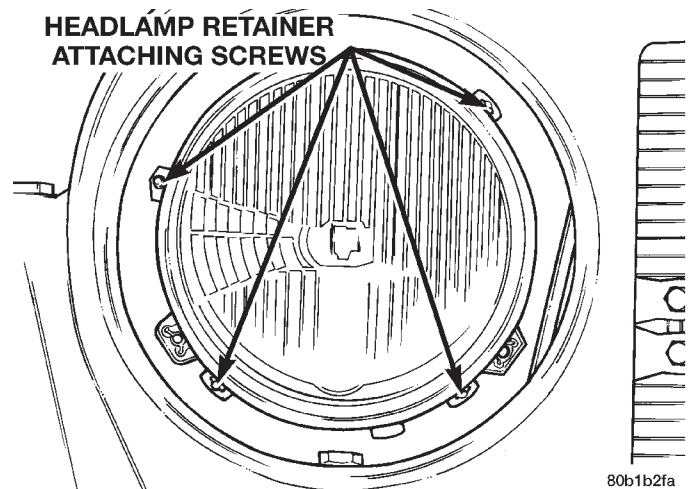
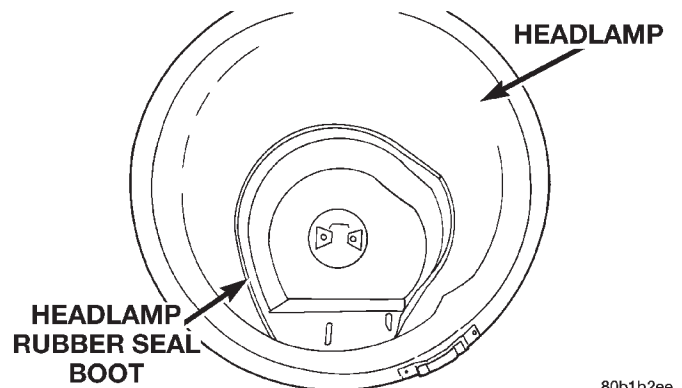

Fig. 2 Headlamp Retaining Ring
Fig. 3 Headlamp Rubber Seal Boot
- (4) Remove the headlamp retaining ring screws and retaining ring (Fig. 2).
- (5) Remove the headlamp from vehicle.
- (6) Remove rubber seal boot (Fig. 3).